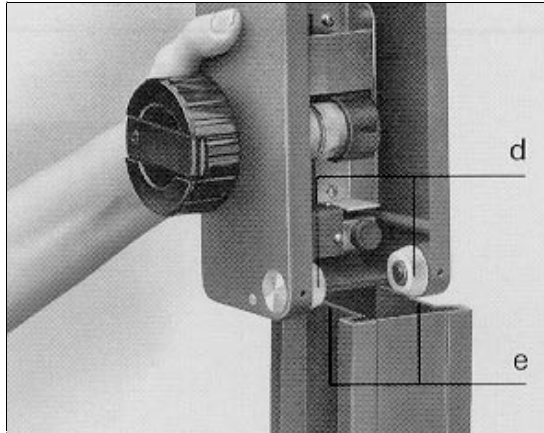

Figure 2-6. Vertical Carriage Rollers and Rails
- b. Carefully push lower end of the carriage onto the column, making sure that the two white rollers (d, figure 2-6) slide down behind the rails (e).